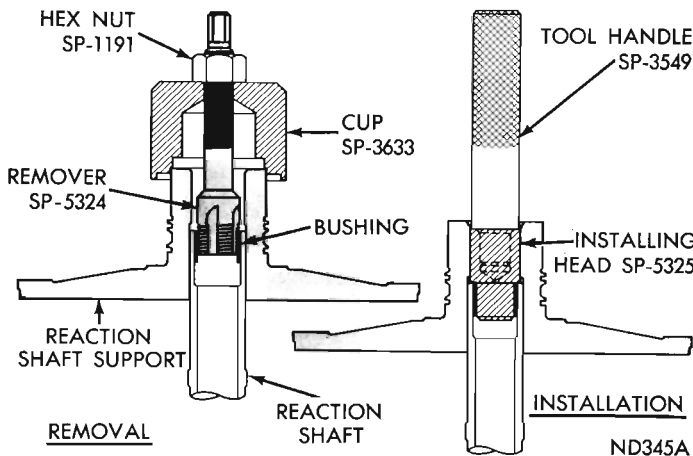

Fig. 61—Replacing Reaction Shaft Bushing (A-904)
(1) Assemble remover Tool SP-5324, cup Tool SP-3633, and hex nut Tool SP-1191 (Fig. 61).
(2) With cup held firmly against reaction shaft, thread remover into bushing as far as possible by hand.
(3) Using a wrench, screw remover into bushing 3 to 4 additional turns to firmly engage threads in the bushing.
(4) Turn hex nut down against cup to pull bushing from reaction shaft. Thoroughly clean reaction shaft to remove chips made by remover threads.
(5) Lightly grip bushing in a vise or with pliers and back tool out of the bushing. Be careful not to damage threads on bushing remover.
(6) Slide a new bushing on installing head Tool SP-5325, and start them in the bore of reaction shaft (Fig. 61).
(7) Support reaction shaft upright on a clean smooth surface and install handle Tool SP-3549 in